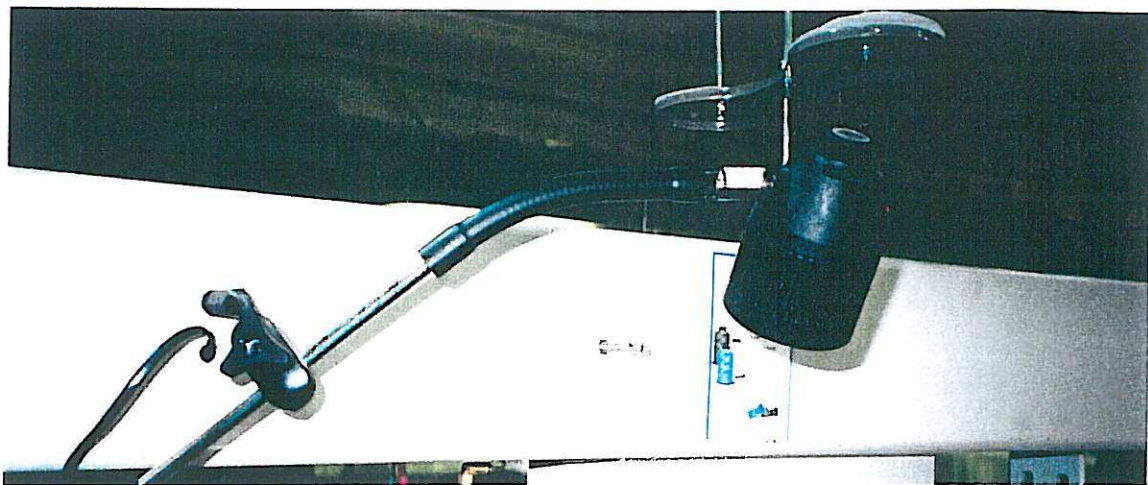

Figure 4.6
K. Light: Located on the front of the bridge, above the sewhead. See *Figure 4.6*. Provides light to operating personnel when working on the sewhead.